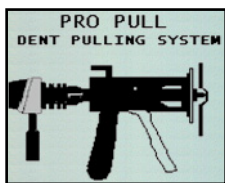

Figure 6.6 Selecting Pro Pull weld mode
1. Push the Single-Sided weld mode button (*fig 6.3*). Single Sided Weld Programs will display on the screen (*fig. 6.5*). The i4 software defaults to Single Spot Weld Mode (*fig. 6.6*).
1. Push the Single-Sided weld mode button (fig 6.3). Single Sided Weld Programs will display on the screen (fig. 6.5). The i4 software defaults to Single Spot Weld Mode (fig. 6.6).
2. Select Pro Pull Welding Program by pressing the Left or Right Navigation Buttons (fig. 4.9). Make sure that Pro Pull Welding graphic appears on the screen (fig. 6.6).